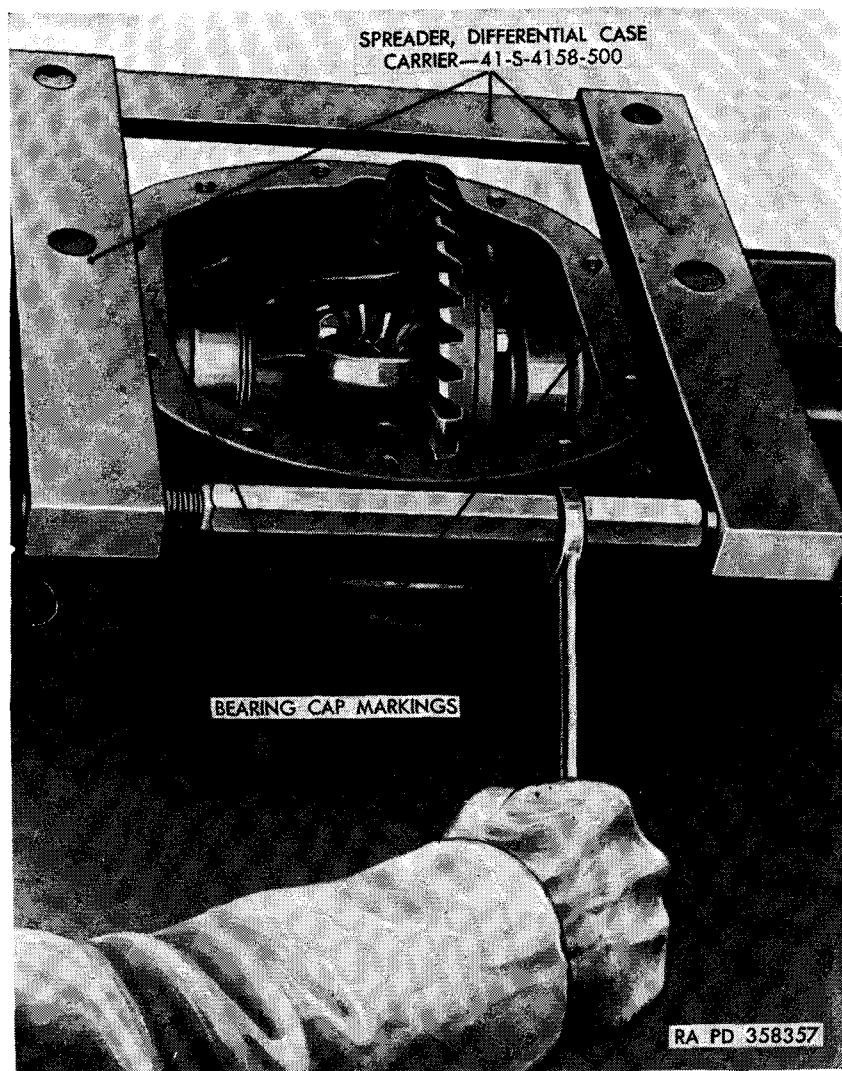

Figure 59. Removing differential case from carrier housing.
Remove the ten lock-washer screws (H) securing the gear carrier housing cover (F). Remove the gear carrier housing cover (F) and housing cover gasket (D). Discard the old gasket. Remove the two case bearing cap screws (K) from the case bearing cap (C) at each end of the differential gears; remove the case bearing caps. Place differential case carrier spreader 41-S-4158-500 (fig. 59) in position on the gear carrier housing. Spread the gear carrier housing enough to provide adequate clearance and remove the front axle differential case. Install the case bearing caps in the gear carrier housing, noting the bearing cap markings to assure correct location.